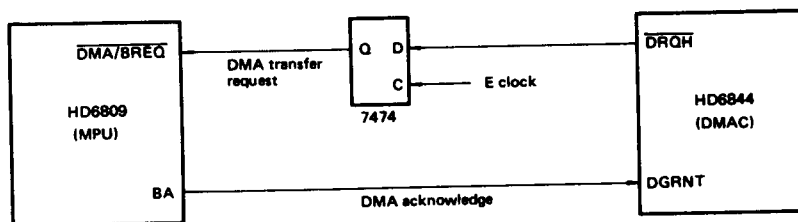
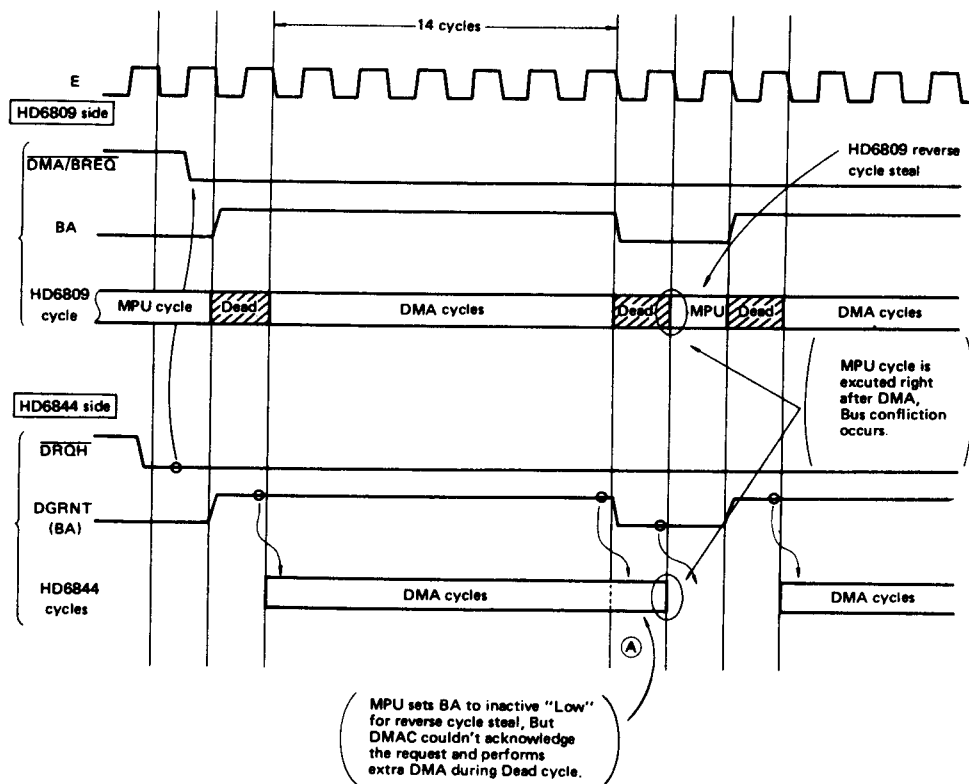

Figure 24 An Example of HD6809, HD6844 System
Figure 25 Comparison of HD6809, HD6844 DMA cycles
(The restriction is also applied to the system which doesn't use 7474 Flip-Flop. Fig. 24, Fig. 25 shows an example which uses 7474 for synchronizing DMA request with E.
As shown in Fig. 25, DMA controller can't stop DMA transfer (A) by BA falling edge and executes an extra DMA cycle during HD6809 dead cycle. So MPU cycle is executed right after DMA cycle, the Bus confliction occurs at the beginning of MPU cycle.